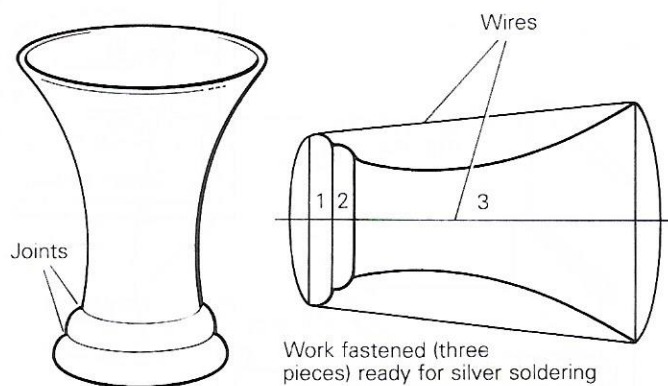

Figure 7.14 Silver soldering.
2. Assemble the joint by holding the parts closely together (by wiring, for example: Figure 7.14). Support the joint if necessary.